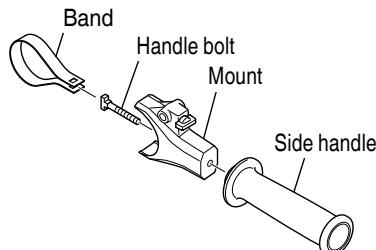

Fig. 2
(1) Turn the side handle to dismantle. (Fig. 2)